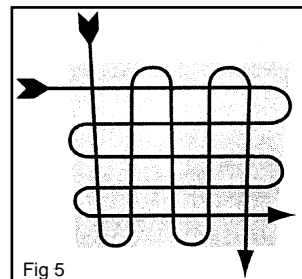

Fig 5
4. When spraying large areas or objects, it is best to use a criss-cross pattern, either from left to right then up or down or vice-versa. This will ensure maximum coverage (fig 5).